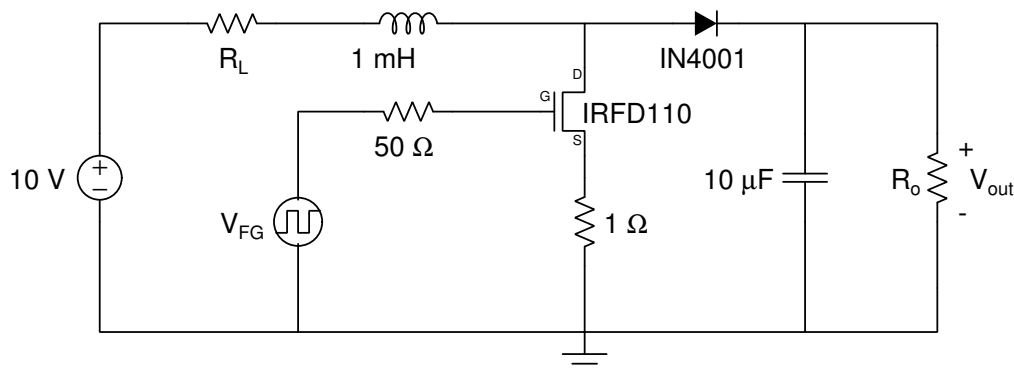

Figure 3: Boost converter circuit for NGSpice simulation and for implementation.
2. Use NGSpice to simulate the boost converter circuit shown in Figure 3. Include the ESR of the inductor. Also include a  $1\ \Omega$  resistor between the S terminal of the transistor and ground to allow for the simulation of the current through the transistor.
1. Build and test the boost converter circuit shown in Figure 3 using the component values and FG settings determined in step 2i of the Pre Lab.